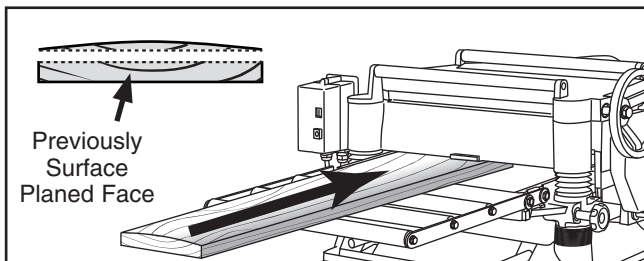

Figure 22. Surface planing on a thickness planer.
2. **Surface Plane on a Thickness Planer:** The opposite face of the workpiece is surface planed flat with a thickness planer (see **Figure 22**).